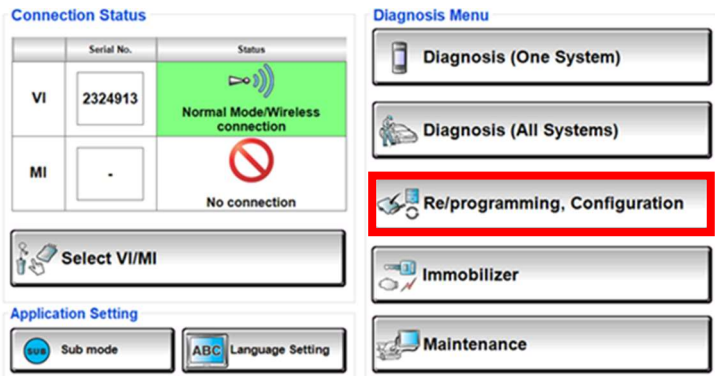

Figure 14
16. Select **Re/programming, Configuration**. (Figure 14)